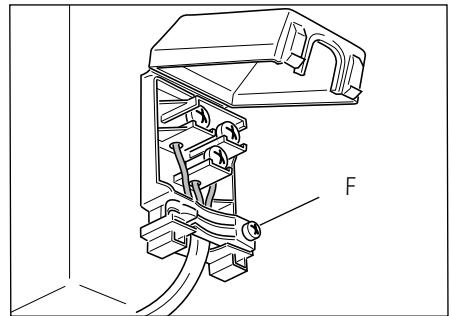

Fig. 8
- 2 Open the cable crimp by unscrewing screw "F" (Fig. 8), unscrew the terminal screws and remove the cable.